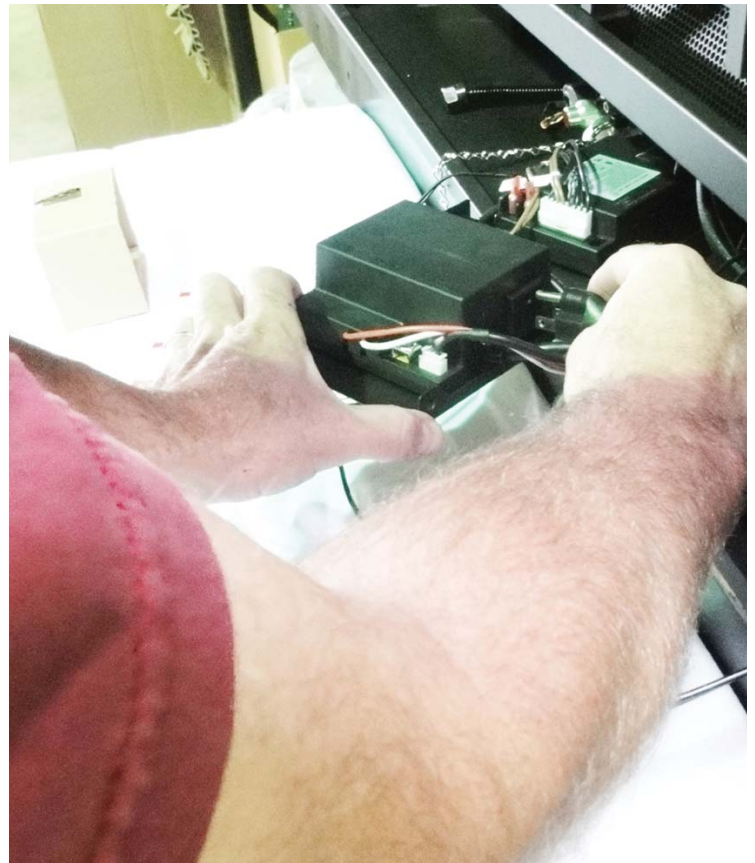

Figure 4
6. Plug the blower into the extension module. Figure 4